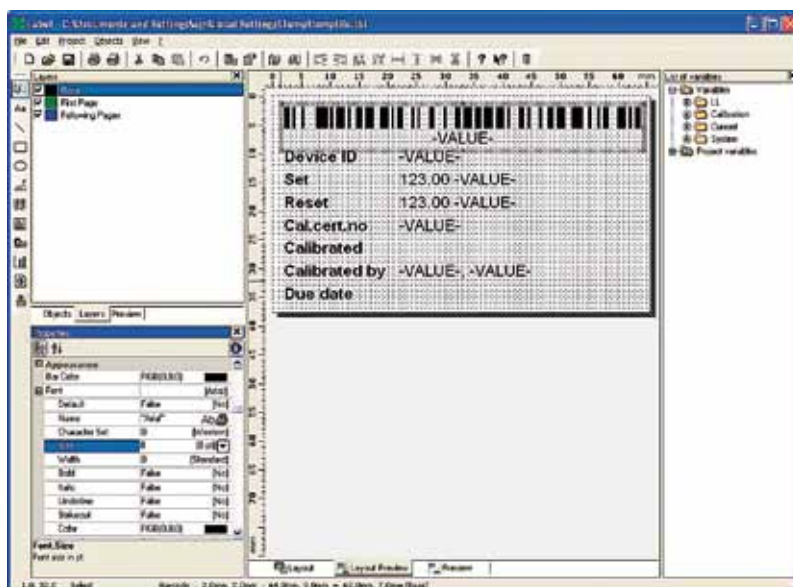

Figure 3
- Save the changes. Now the layout should look somewhat like Figure 3.